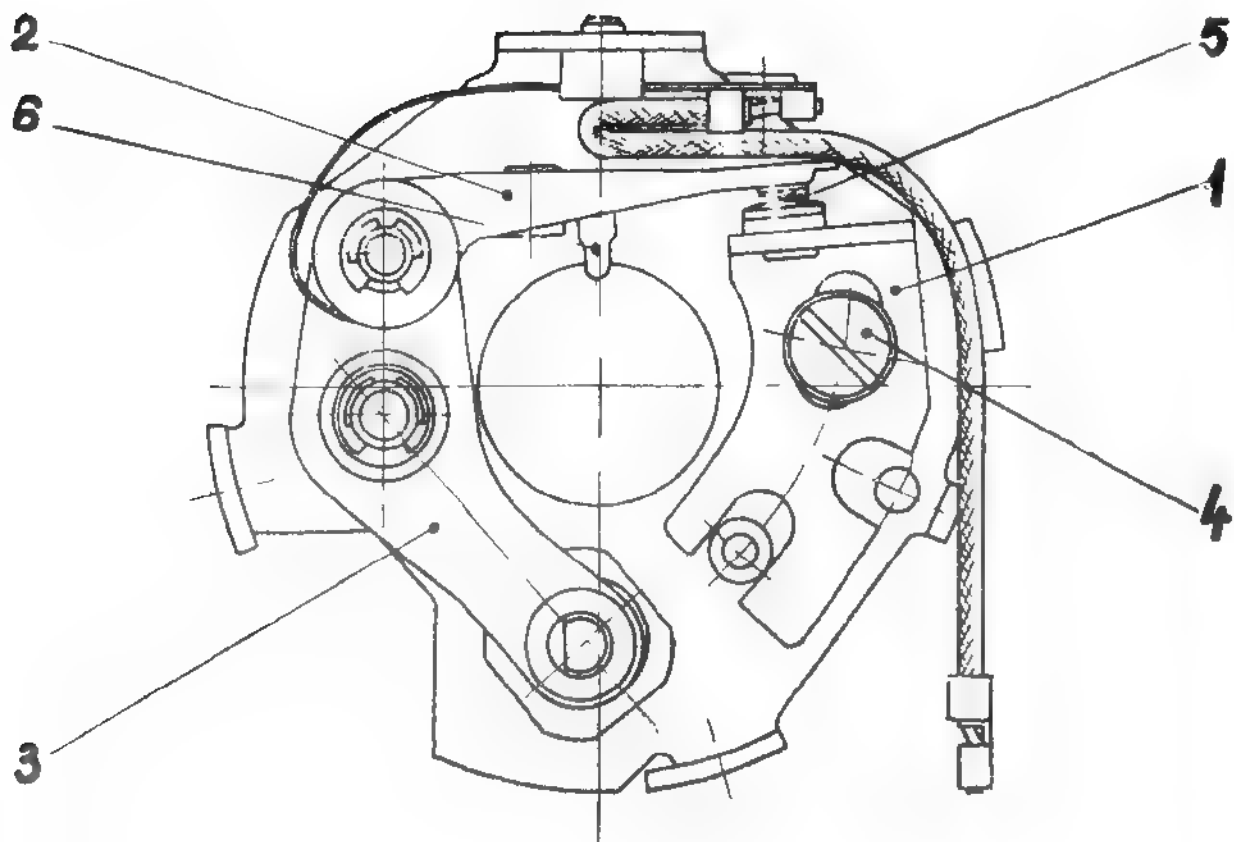

Fig.2.18. IGNITION BREAKER MECHANISM.
- In this position the gap should be comprised between 0.35 and 0.45 mm. If not, slacken screw (4) fastening timing clamp (1) and adjust its position, until the points gap reaches the above mentioned value. Check gap by means of feeler gauge blades (see fig. 2.18).